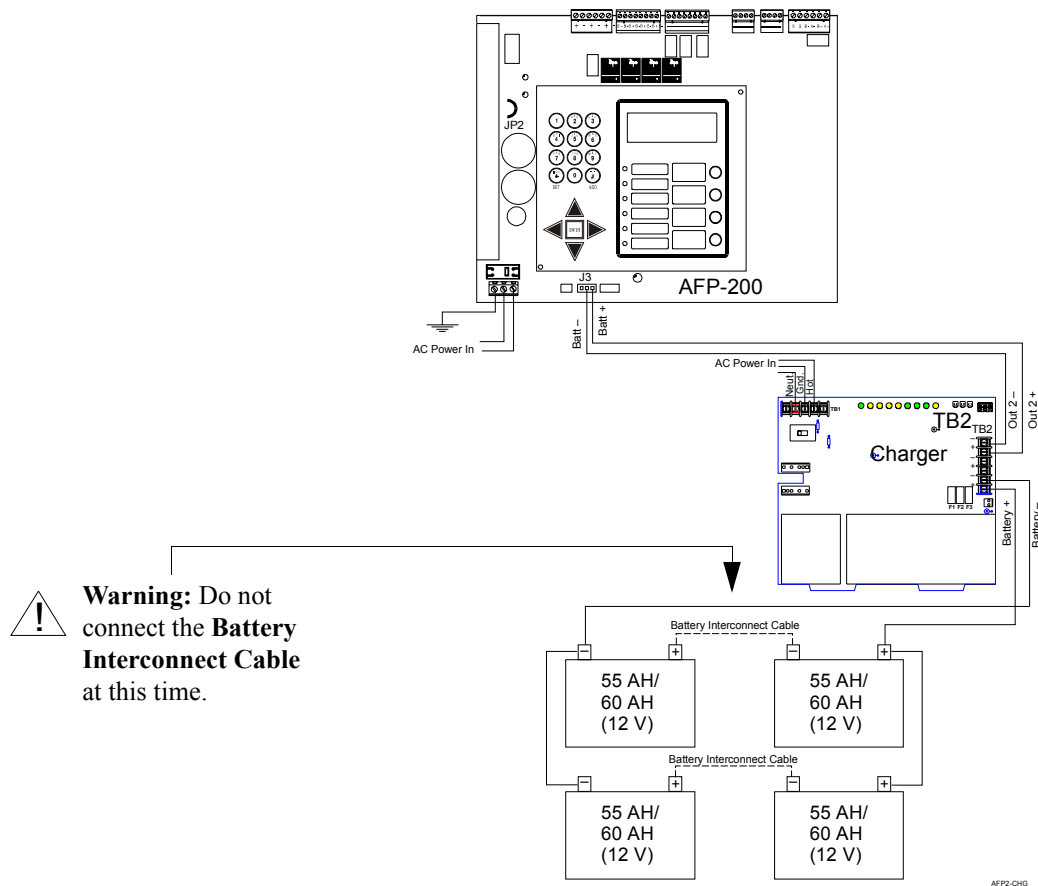

Figure 171 Connecting the CHG-120 to the AFP-200
Figure 171 shows how to connect four 55 AH batteries to the charger:
2. Tie the batteries in pairs by connecting the battery negative terminals and the battery positive terminals as shown in Figure 171.
3. Connect the battery negative cable to the TB2 terminal (on the charger labeled "Battery -") as shown in Figure 171.
4. Connect the battery positive cable to the TB2 terminal (on the charger) labeled "Battery +" as shown in Figure 171.